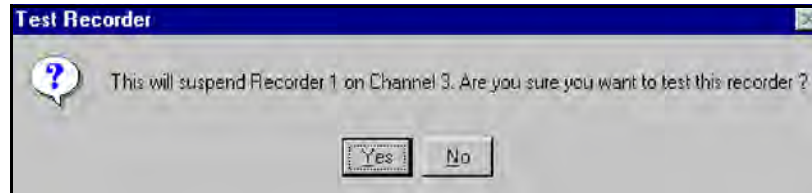

Figure 51: Test Recorder Prompt
2. A window similar to *Figure 51* below should appear, asking if you want to test the Recorder. Press Yes.